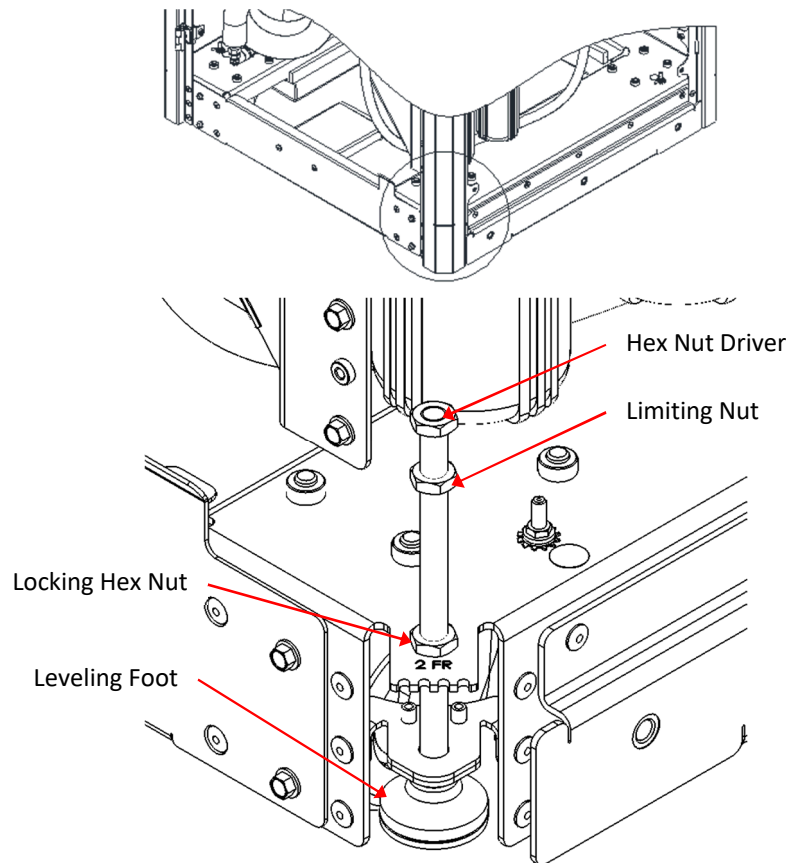

Figure 2-13: Leveling Feet
2. Locate the four Threaded Rods in each corner (one shown in Figure 2-13).
3. Use a 19mm wrench to turn the Locking Hex Nut (refer to Figure 2-13) counterclockwise to free the threaded rod. Repeat on all required rods as necessary.
4. Use a 19mm wrench to turn the Hex Nut Driver (refer to Figure 2-13) on each Threaded Rod gradually clockwise in an alternating fashion (no more than two full rotations per rod at once) until the ICC is leveled or lifted to the desired height. The Locking Hex Nut may need to be further recessed up the Threaded Rod. Repeat on all required rods as necessary.